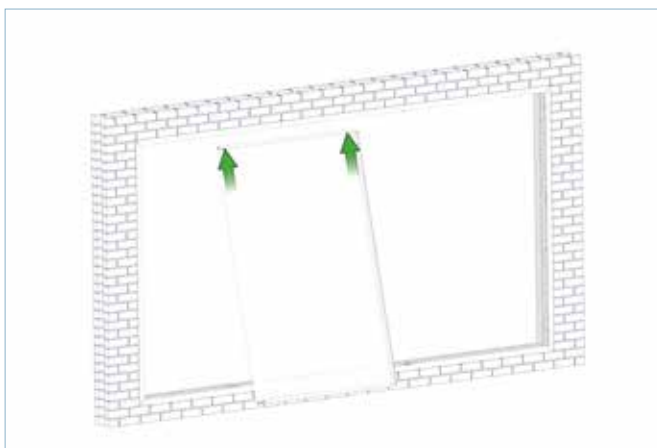

FIG 16
2. Insert the sash into the top track as far as possible (FIG 16)